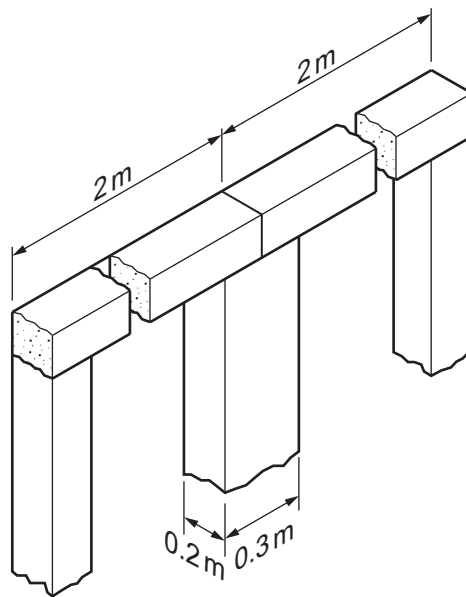

Fig. 9.3
- (iv) Fig. 9.3 shows two beams used to span a gap with a central support. Each beam weighs 200 kg. The load from the beams is equally divided between the supports.